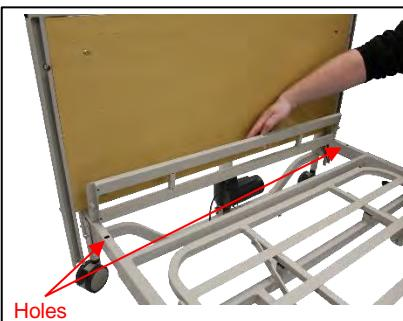

Figure 15: Release locking pins
- Place and secure the extension platform onto the holes that are located on the bed extension(*figure 15*)